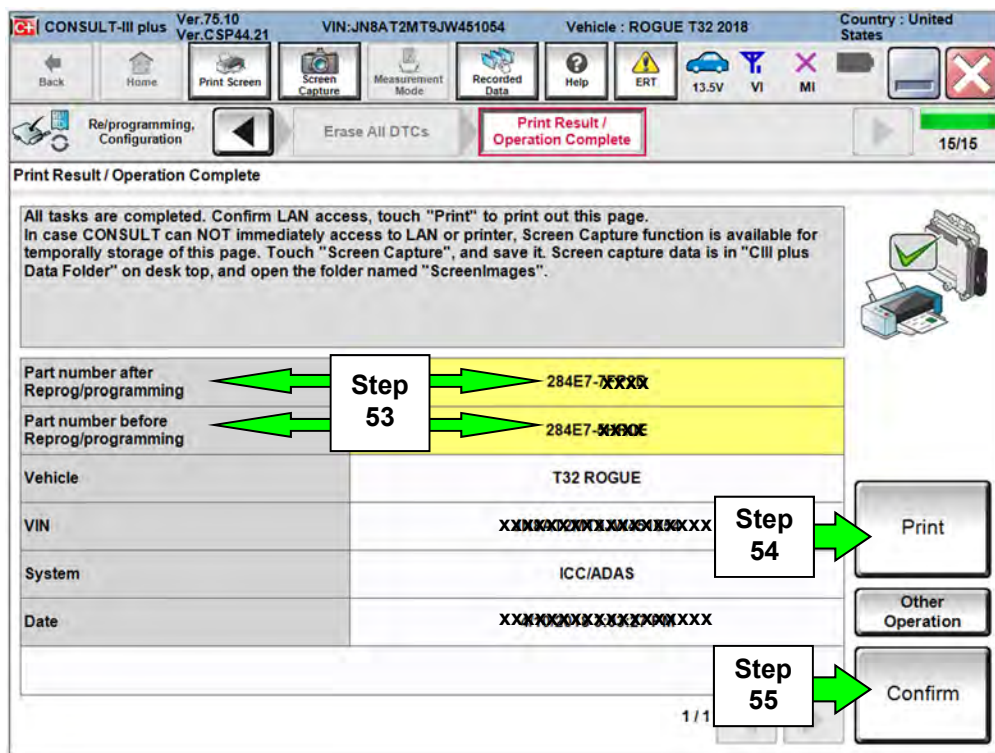

Figure 32
52. When the entire reprogramming process is complete, the screen in Figure 32 will display.
54. Print a copy of this screen (Figure 32) and attach it to the repair order for warranty documentation.